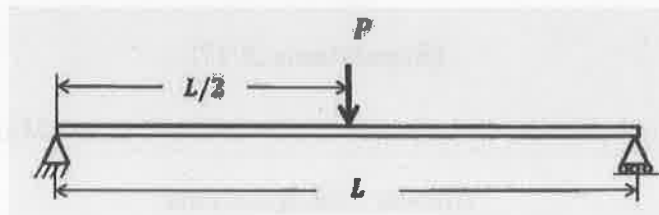

Figure 1
- (b) Find the deflection at the centre of a simply supported beam of span length 'L' subjected to a concentrated load P at its mid-point as shown in figure 1. Use Rayleigh-Ritz method.